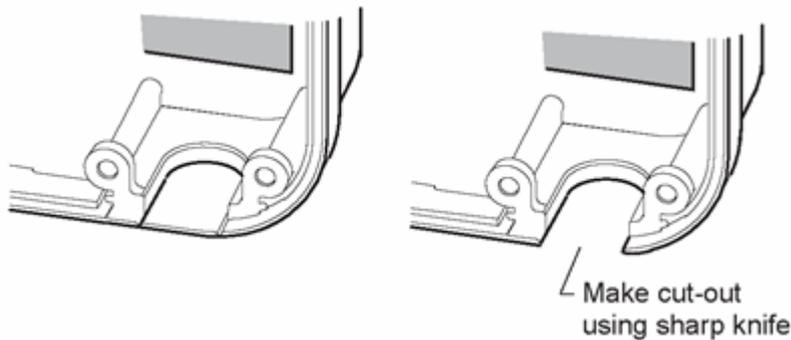

Figure 6 Plumbing cut-out
4.9 Plumbing entry can be from the rear (preferred) or from the bottom. The backplate has a cut out position to suit 15mm pipe. When opting for bottom entry make cut out before fitting backplate to the wall - see figure 6.